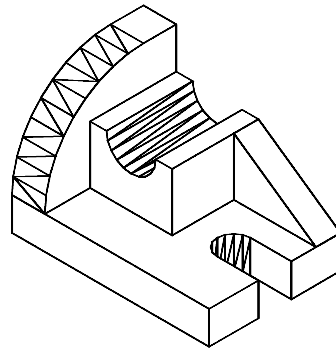

Figure 26-114 Next solid aligned with the base
14. Extrude and then move it so that it is properly aligned with the base, see Figure 26-114.